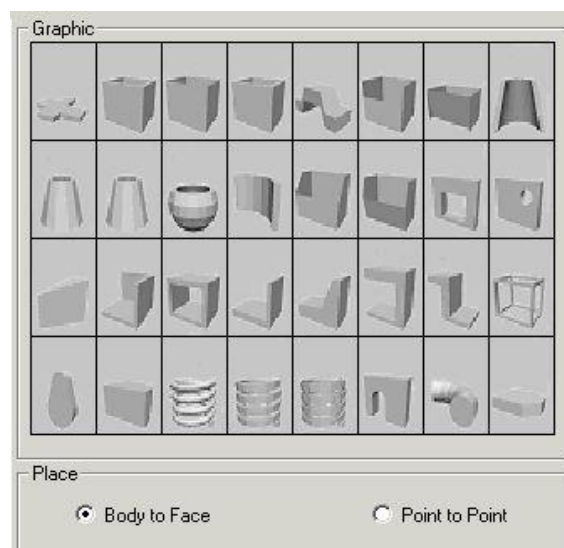

Figure 57: Example of a Graphic Display of Primitives
- 4) Use the insert tool to click the graphic to place the primitive at the point where you have placed the insert tool. You can use the insert tool as well to insert further primitives in the graphic. *Please refer to the Figure 57.*